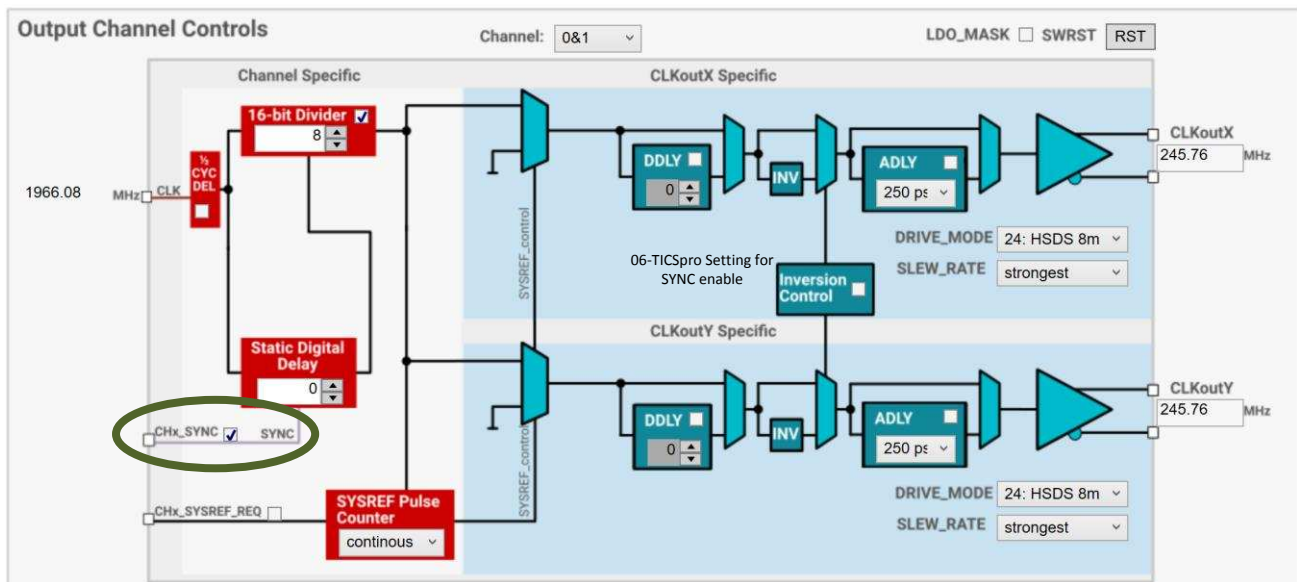

Figure 6. TICSpro Setting for SYNC Enable
1. Go to OUTPUTS tab, enable the SYNC function for the output dividers to be synced as Figure 6 shows.